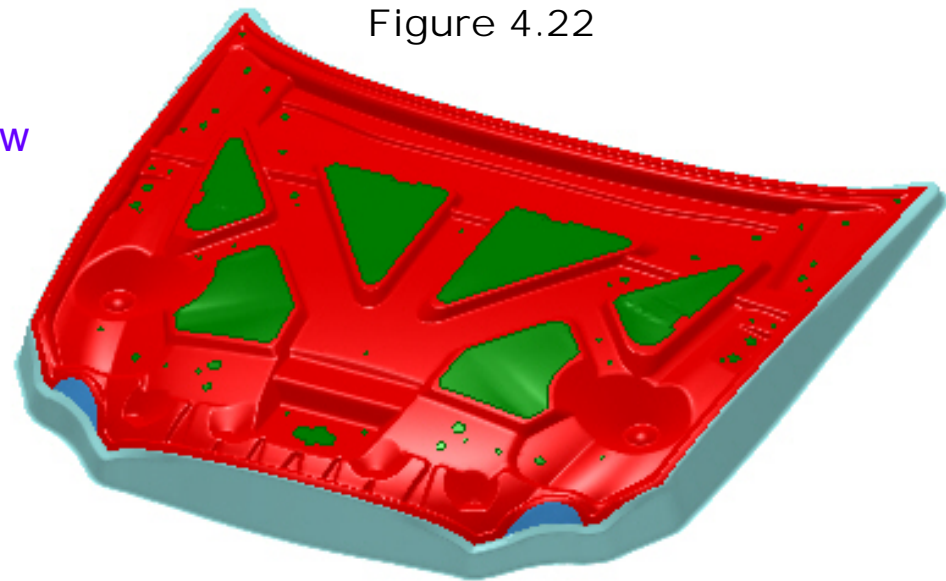

Figure 4.23
- Click **Apply** to generate the addendum, as shown in Figure 4.23